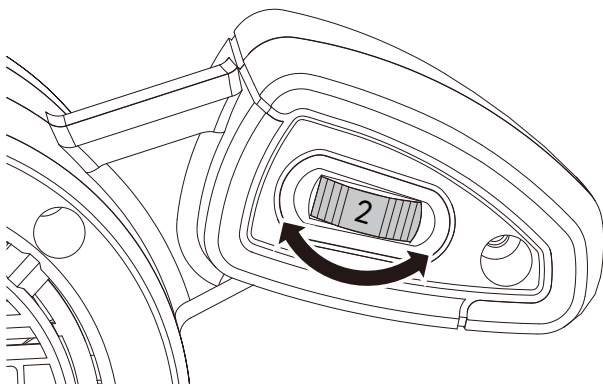

Figure 5
3. VARIABLE SPEED CONTROL (SEE FIG. 5)